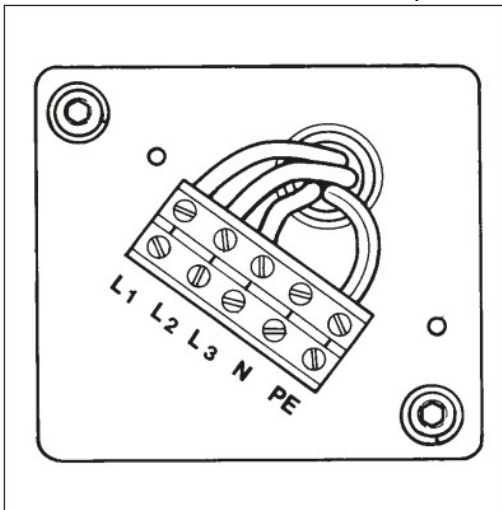

Fig 3
Electrical connection (fig 3)
- the open the electrical components box at the back of the machine (fig 3);